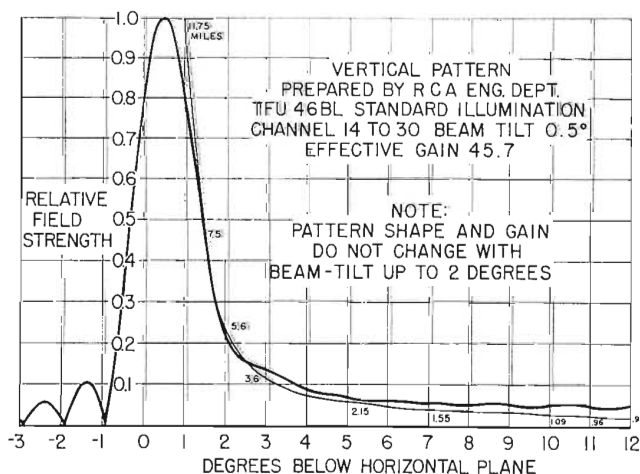

FIG. 16. Patterns obtained as a result of the amplitude and phase distribution shown in Fig. 15.
The objectives discussed above, namely: (1) The elimination of nulls, (2) Beam tilt by linear phase change, and (3) Reducing energy above the horizontal, can be accomplished by synthesizing the desired pattern.8 The vertical pattern depends entirely on the current amplitude and phase of each radiating element. By using an amplitude and phase distribution such as shown in Fig. 15 a pattern as shown in Fig. 16 can be achieved. The method is quite flexible and a great variety of patterns for various needs can be achieved. The use of slotted cylinders permits a high degree of flexibility in con-